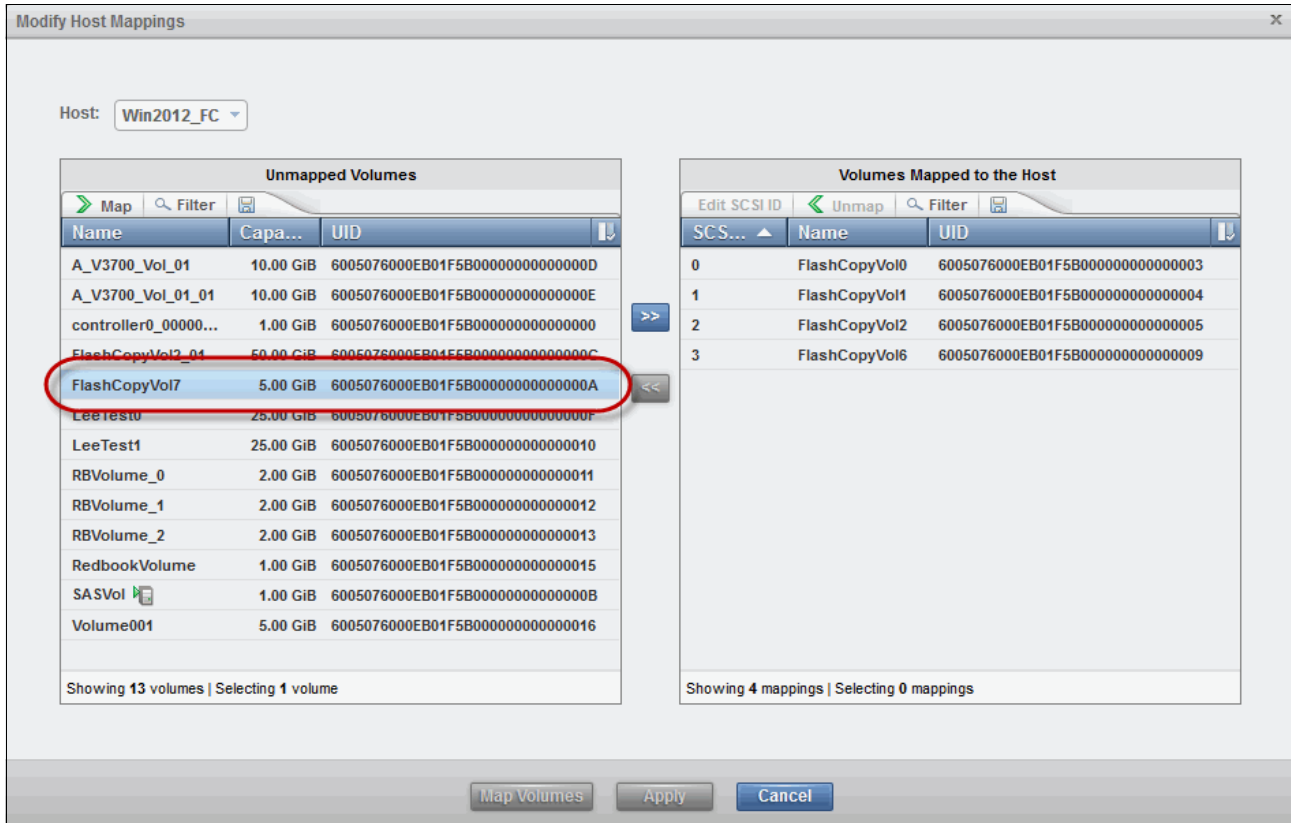

Figure 8-5 Modify Host Mappings
- To map further volumes to a chosen host, select the volume from the left pane, as shown in Figure 8-5.